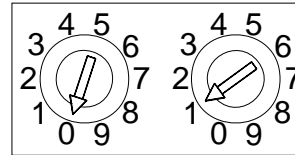

Figure 3. Rotary Decade Address Switches
- Set the sensor address (see Figure 3) by using a flat blade screwdriver to turn the two rotary switches, selecting the desired number between 01 and 99. Record the address on the label attached to the base.